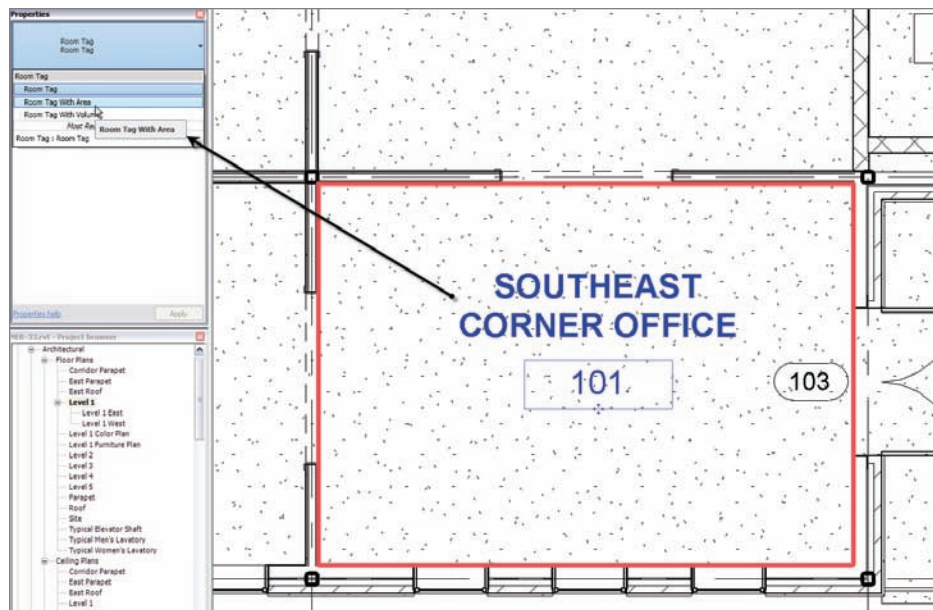

FIGURE 15.15 Change the type to Room Tag With Area
3. In the Properties dialog, select Room Tag With Area, as shown in Figure 15.15.